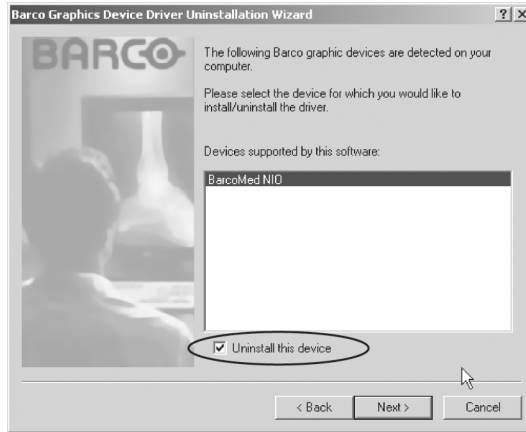

Figure 62
5. On the next screen (see figure 62 on page 123), **check** the checkbox next to "Uninstall this device" and click **"Next"** to continue.